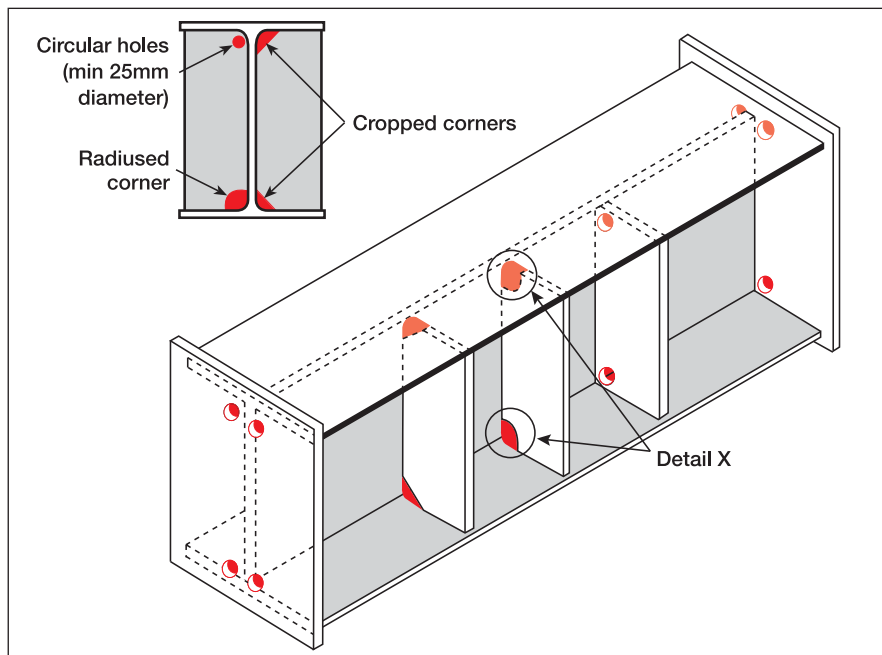

Figure 1.
- Internal and external stiffeners, baffles, diaphragms, gussets etc., should have the corners generously cropped with centre holes (particularly for "Road Sign Gantry" type of configurations) to aid the flow of molten zinc and to prevent air entrapment (figures 1, 10 and detail X).